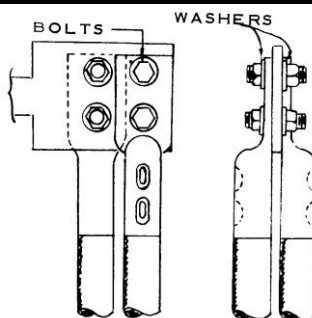

Figure 6
- Figure 6 – Compression connections will accommodate two cables with lug greater than 1 3/4 inch width.